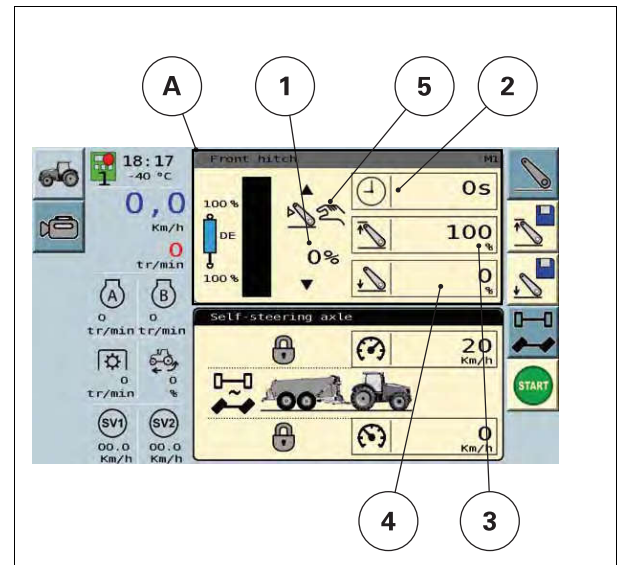

Fig. 1.
When the Front linkage application is selected, the screen (A) *fig. 1* is displayed.
- (1) Current front linkage position shown as a percentage
- (2) Spool valve activation time with the time delay function (kick-out)
- (3) Required raised position of the front linkage as a percentage
- (4) Required lowered position of the front linkage as a percentage
- (5) Symbol for manual mode or automatic position restore for the front linkage